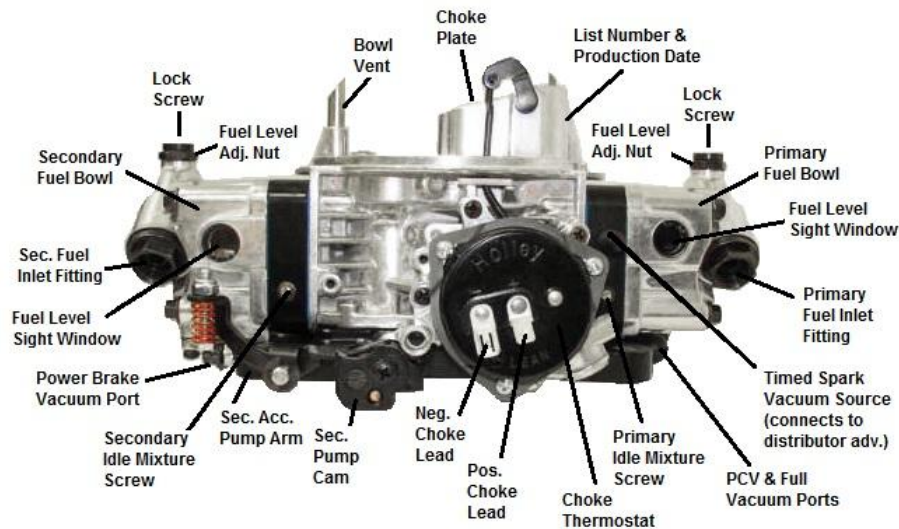

Figure 6
6. Reconnect the appropriate vacuum hoses to the carburetor, noting the correct fitting from **Figure 6** and **8**.
8. Connect the power brake hose to the fitting as shown in **Figure 6**.